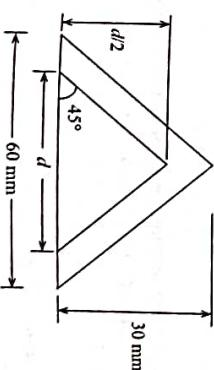

Figure 10.14
- 10.4 An extruded aluminium alloy section is of shape and dimensions as per Fig. 10.14. If a vertical force on the section is 4 kN. Find the dimension  $d$ , if the average shear stress in the section is 8 MN/m2. What is the shear stress at neutral axis?